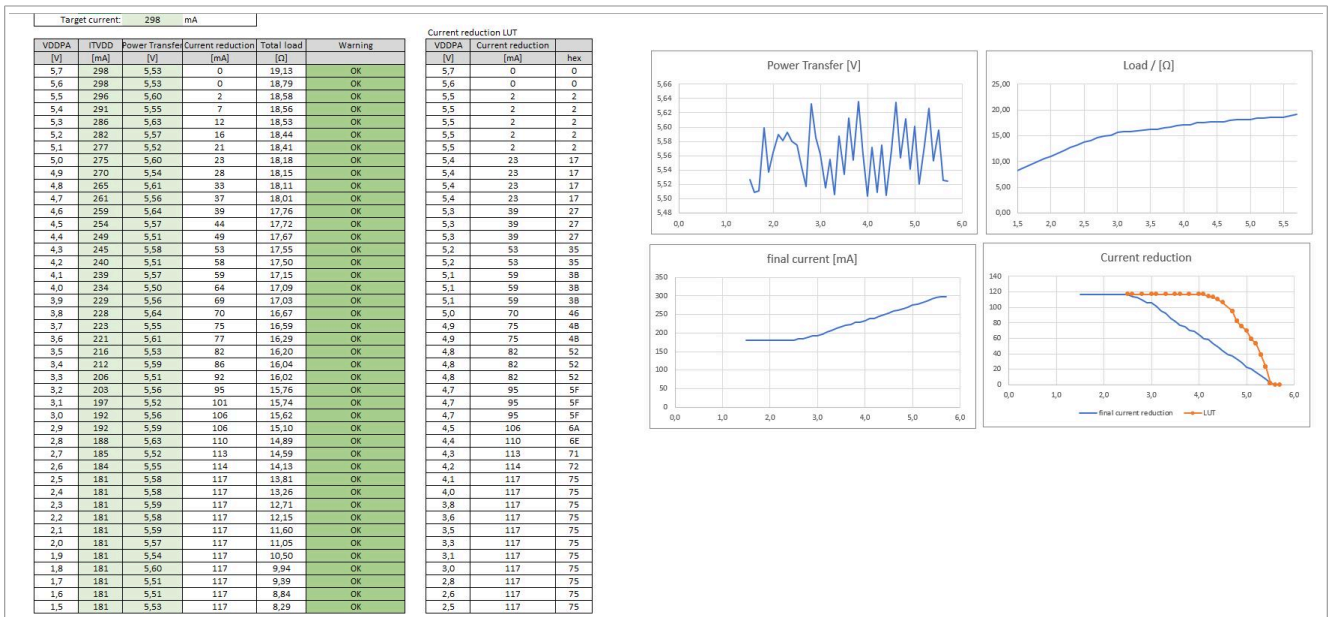

Figure 13. Corrected DPC measurement result
- c. Save the excel sheet: An example is shown in Figure 13.
| Fig. 5. | Measured VoV example before calibration (x = distance in mm, y = VoV in V) | 6 | Fig. 13. | Corrected DPC measurement result | 12 |